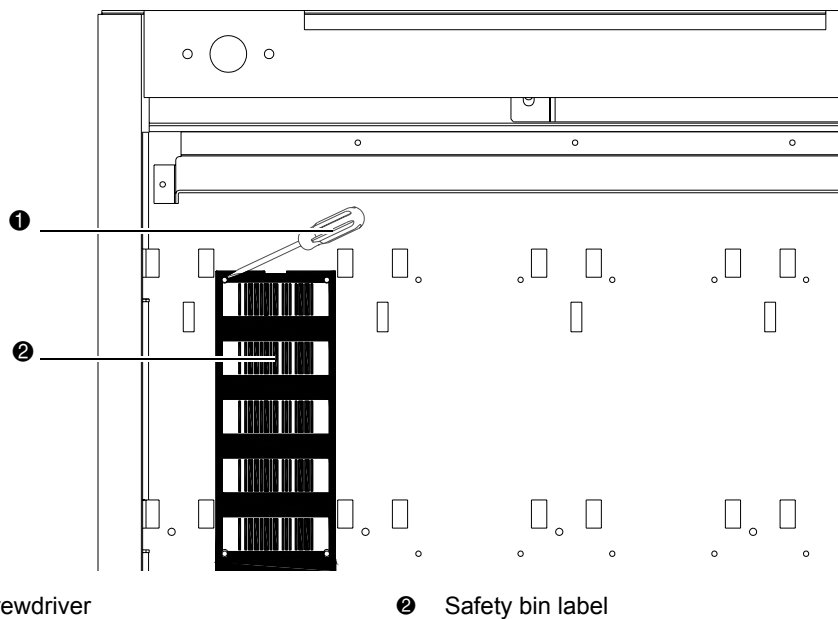

Figure 9: Removing empty bin labels
4. Remove the empty bin label from the library wall using a flat blade screwdriver to pry up the rivets (see Figure 9).